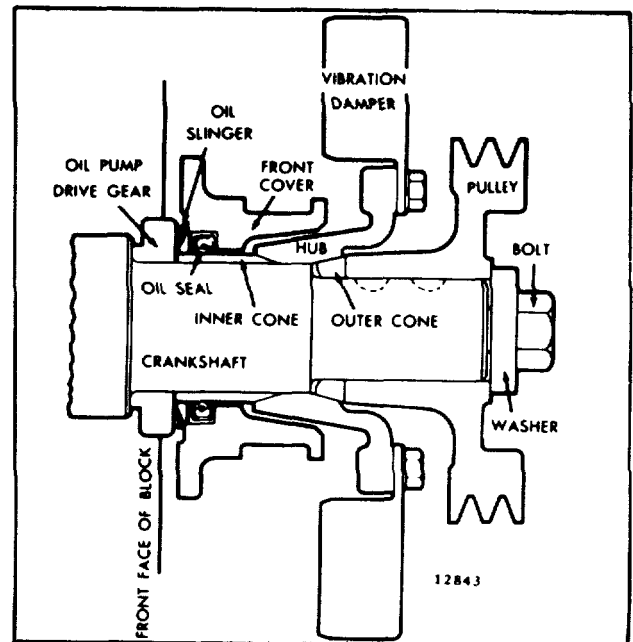

Fig. 1. Removing Vibration Damper Assembly (Viscous Type)
4. Reinstall the pulley crankshaft bolt and install a puller as shown in Figs. 1 and 2 to loosen the outer cone wedged between the crankshaft and the damper hub. After loosening the cone, it may be "fished" from the inner diameter of the damper hub with two thin shank screw drivers.